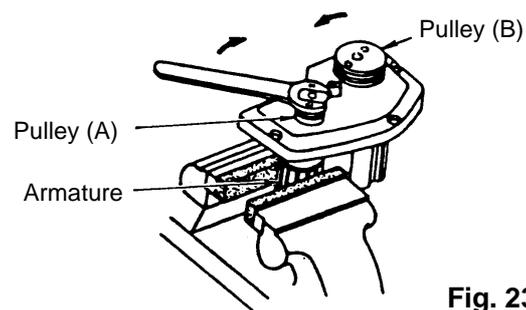

Fig. 23
1-1-2. Pulley (A) and Pulley (B) Disassembly: (See Fig. 23, 24)
- (1) Slightly loosen the Belt (32) (30), and remove it from the pulleys by rotating them manually.
- (2) Pulley (A) (34) (32) (right-hand threaded) and Pulley (B) (33) (31) (lefthand threaded) are screwed onto the armature shaft and the cutter spindle respectively. To remove Pulley (A), fix the Armature (19) (19) firmly in a vise, and unscrew the pulley in a clockwise direction with a wrench.
- (3) To remove Pulley (B), fix the cutter block firmly in a vise, and unscrew the pulley in a counter-clockwise direction with the wrench. It is recommended that gloves or a thick rag should be used to prevent injury to fingers and hands.